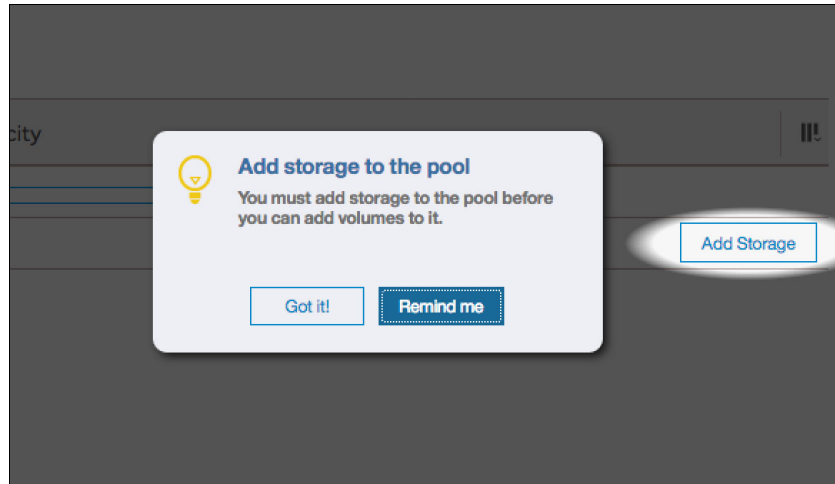
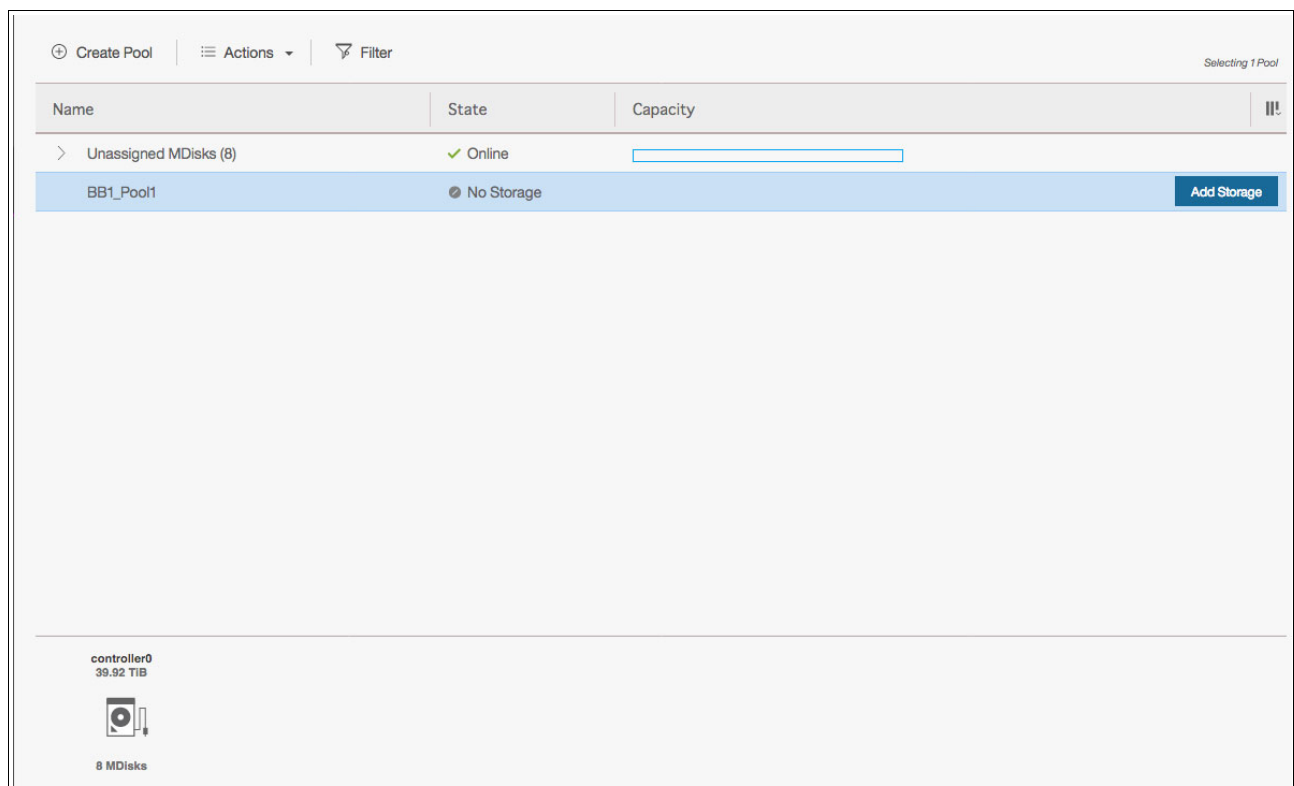

Figure 3-11 Add Storage message
Figure 3-12 Add Storage button
- When the pool has been successfully created, you see the message shown in Figure 3-11. This informs you that you are required to **Add Storage** to the pool before you can create volumes.
- Add storage to the pool you just created by clicking the **Add Storage** button on the right, as shown in Figure 3-11. You can also see a small icon at the bottom of the page in Figure 3-12 that shows the MDisks that are available to select in the next few screens, when creating this storage.